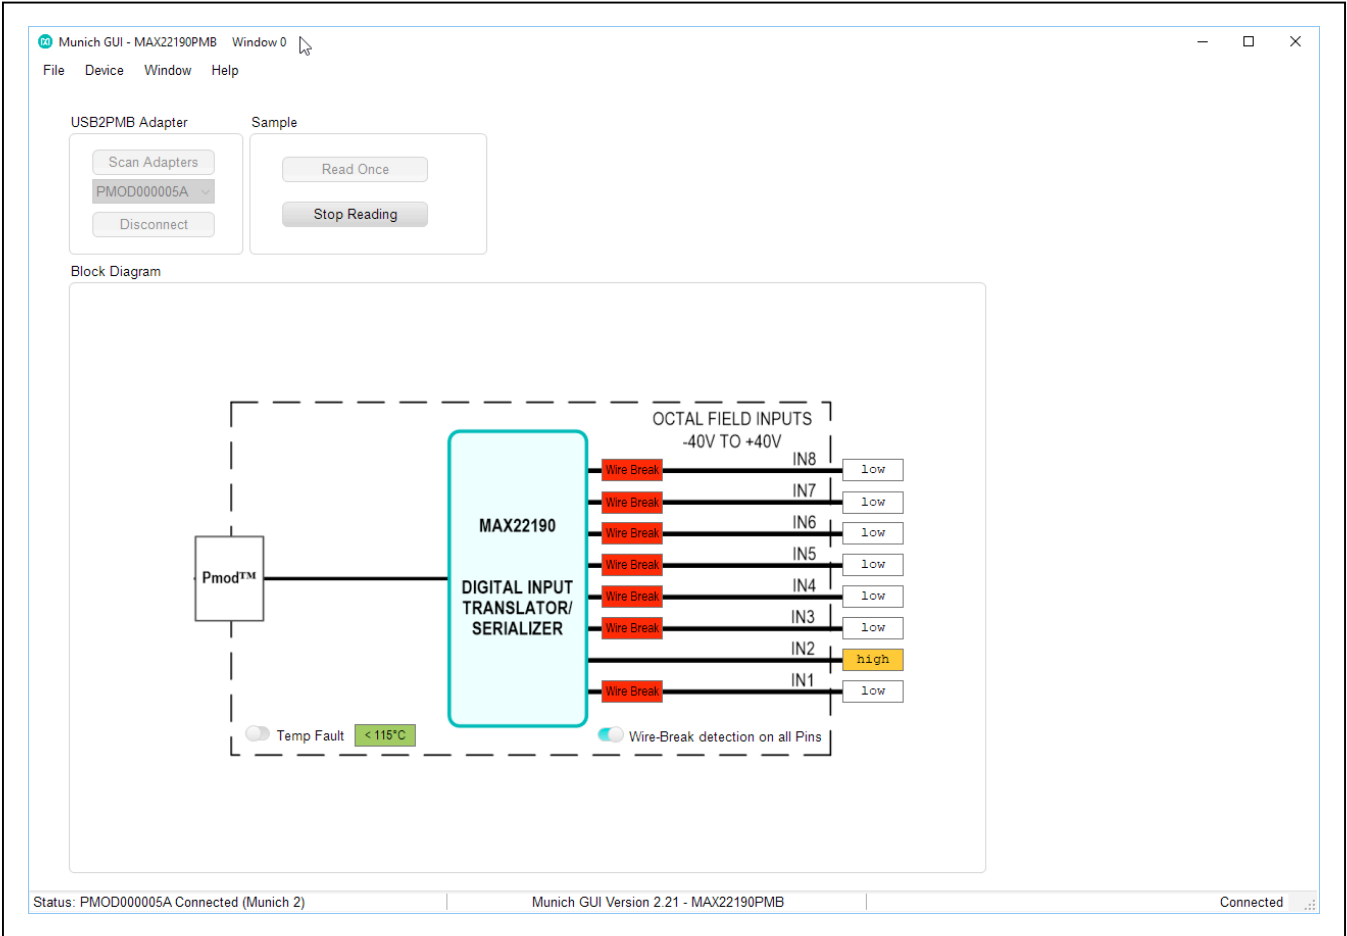

Figure 7. MAX22190PMB# Software IN2 High
- 11) Connect the positive output of the DC voltage supply to X2 Pin 3. Observe that LED2 (green) should be turned on, and the Munich GUI should show high on IN2, and IN2 Wire Break box should disappear. See Figure 7. *Note: On connector X2, the GND pins are next to the input pins. When connect 24V to the input pins, care should be taken not to connect to the GND pins, in case a short is created on the board and voltage supply.*
Connect the positive output of the DC voltage supply to X2 Pin 3. Observe that LED2 (green) should be turned on, and the Munich GUI should show **High** on IN2, and IN2 **Wire Break** box should disappear (see Figure 7).